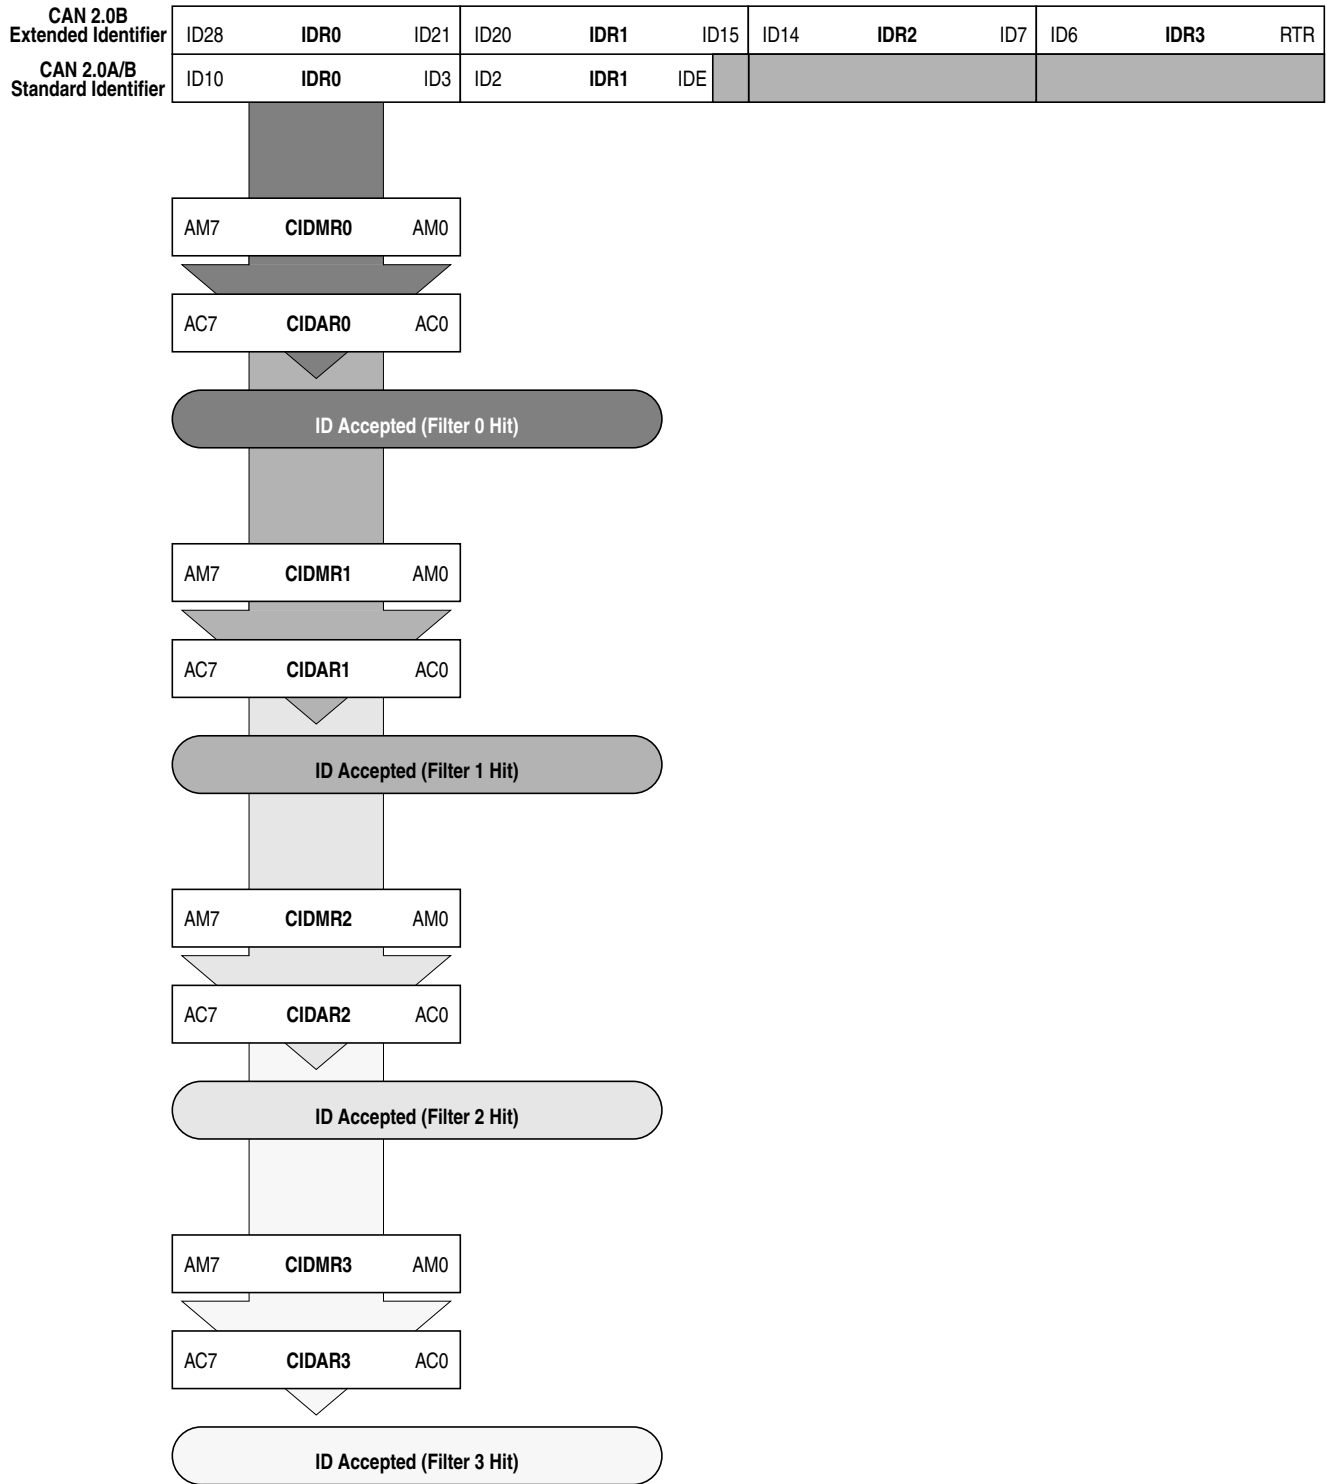

Figure 9-39. 8-bit Maskable Identifier Acceptance Filters
- Eight identifier acceptance filters, each to be applied to the first 8 bits of the identifier. This mode implements eight independent filters for the first 8 bits of a CAN 2.0A/B compliant standard identifier or a CAN 2.0B compliant extended identifier. Figure 9-39 shows how the first 32-bit filter bank (CANIDAR0–CANIDAR3, CANIDMR0–CANIDMR3) produces filter 0 to 3 hits. Similarly, the second filter bank (CANIDAR4–CANIDAR7, CANIDMR4–CANIDMR7) produces filter 4 to 7 hits.